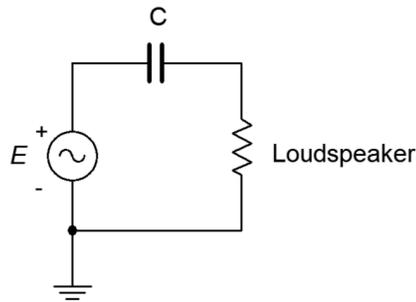

Figure 2.38
66. The circuit of Figure 2.38 can be used as part of a loudspeaker crossover network. The goal of this circuit is to steer the high frequency tones to the high frequency transducer (labeled here as “Loudspeaker” and often referred to as a *tweeter*). A similar network substitutes an inductor for the capacitor to steer the low frequency tones to the low frequency transducer (AKA *woofer*). These networks can be pictured as frequency sensitive voltage dividers. At very low frequencies,  $X_C$  is very large and blocks low frequency tones from reaching the tweeter. A mirror situation occurs with the